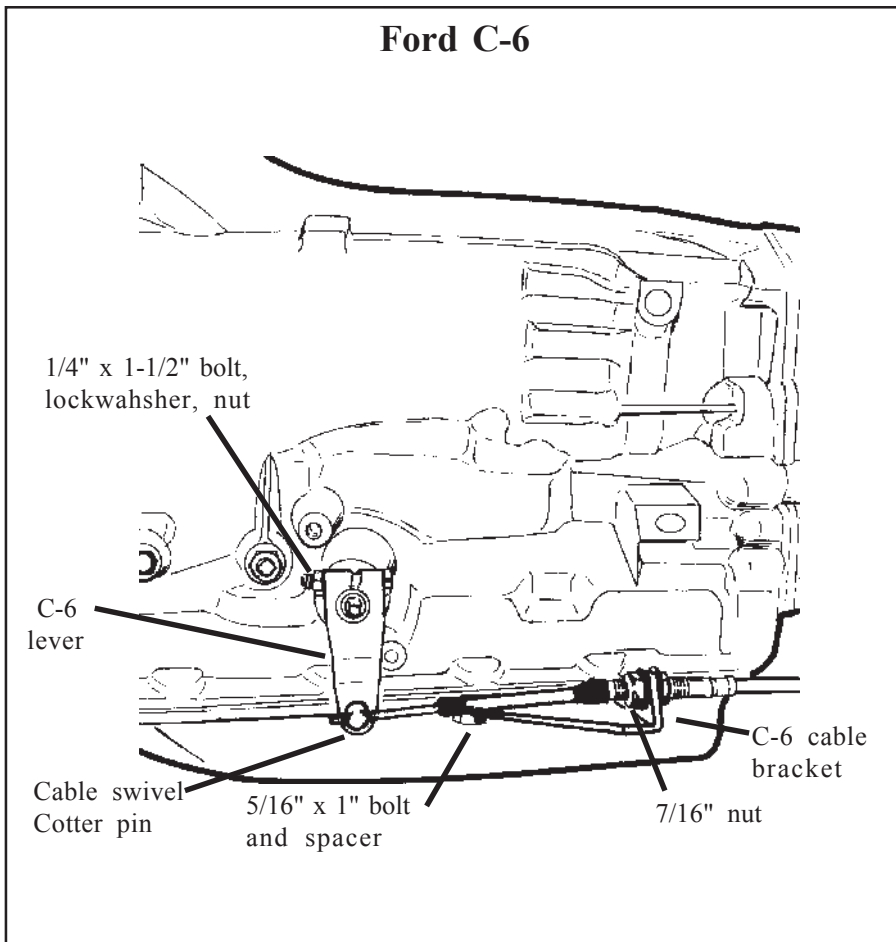
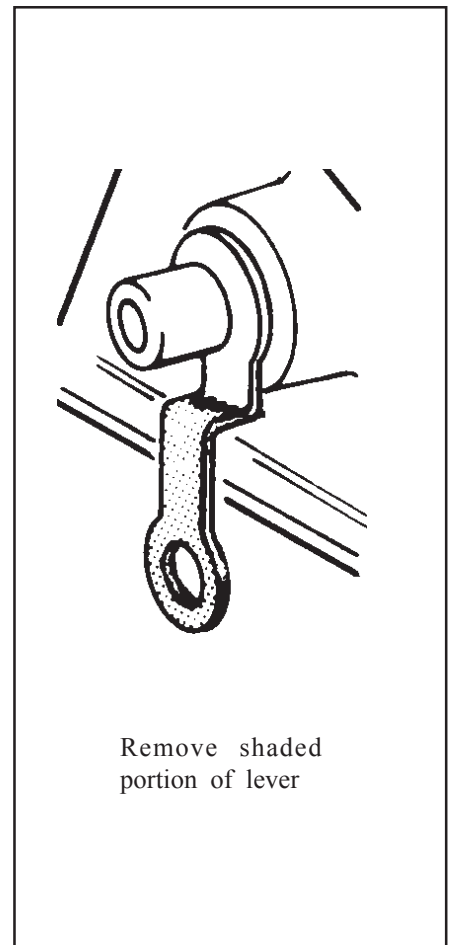

Figure 1
Figure 2
STEP 3. Install the **B&M** selector lever, See **figure 1**. Note: The B&M lever must point downward for proper operation. If the stock shift lever on your transmission points down, you will have to remove the lower part of the stock arm by cutting it off to clear the **B&M** lever, (See **figure 2**). Install **B&M** selector lever onto shift shaft of transmission. Align selector lever so when it points straight down it travels equal arcs in both directions from center, then tighten 1/4"-20 x 1 1/2" pinch bolt and nut. The lever should travel smoothly from front to back
STEP 4. Remove the two transmission oil pan bolts from the left rear corner of the oil pan. Install cable bracket in position, (See **figure 1**) with two spacers between the pan and bracket. (If your transmission is equipped with a cast aluminum oil pan, these spacers can be omitted.) Install the two 5/16-18 x 1.00" bolts supplied and tighten 12-13 ft. lbs. Do not overtighten as this can damage pan gasket.